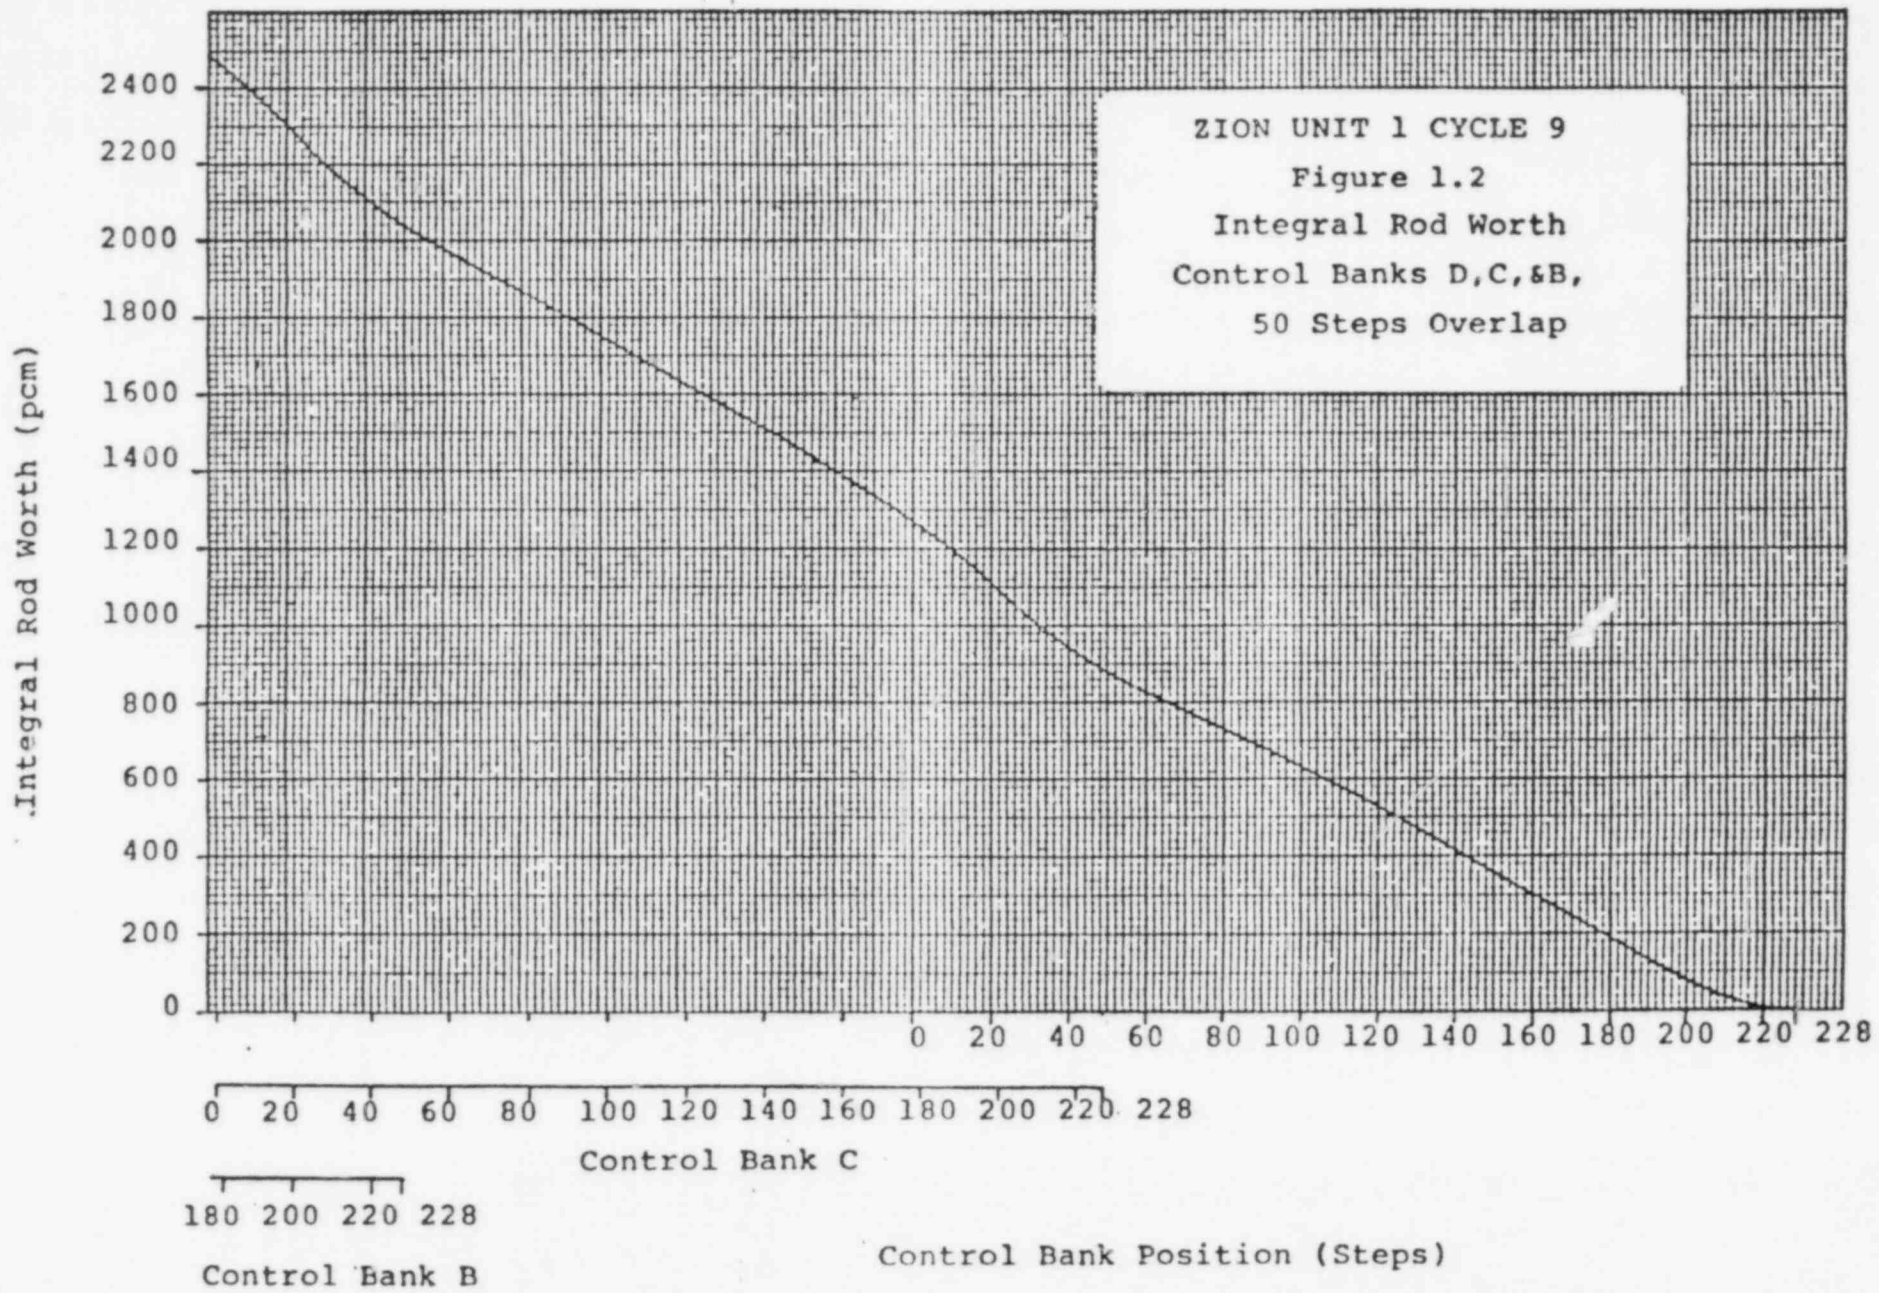

FIGURE 5.1
- a. Use Figures 5.1 and 5.2 to determine the final rod position if boron concentration is to remain unchanged. (2.0)